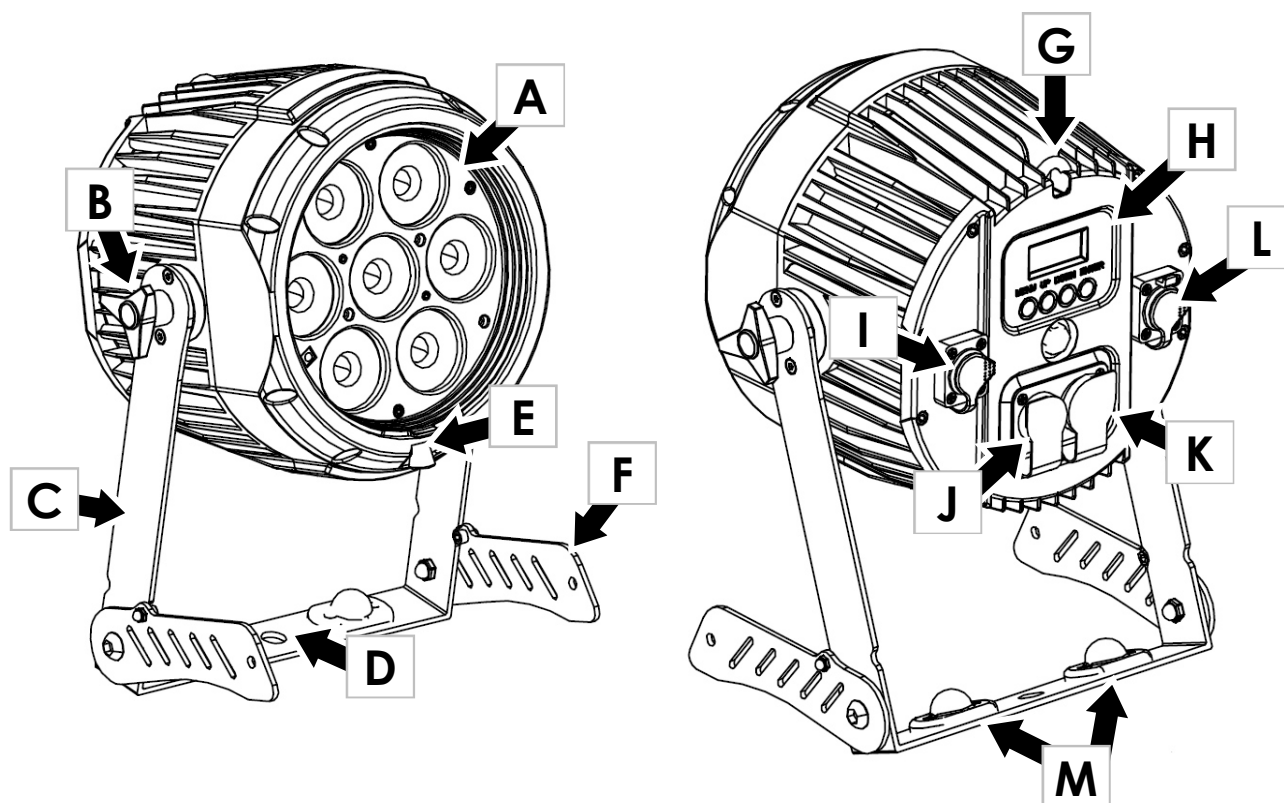

Figure 2. Fusion Par FP7 overview
2. See Figure 2 on page 11. Connect the power input cable to the **MAINS IN** socket by lining up the key (tab) on the cable connector carefully with the keyway (slot) in the MAINS IN connector, then inserting and twisting the cable connector clockwise to lock. You should hear a 'click' when the connector is locked. Do not force the cable connector – if it feels excessively stiff, remove it and check that the key and keyway are correctly lined up.